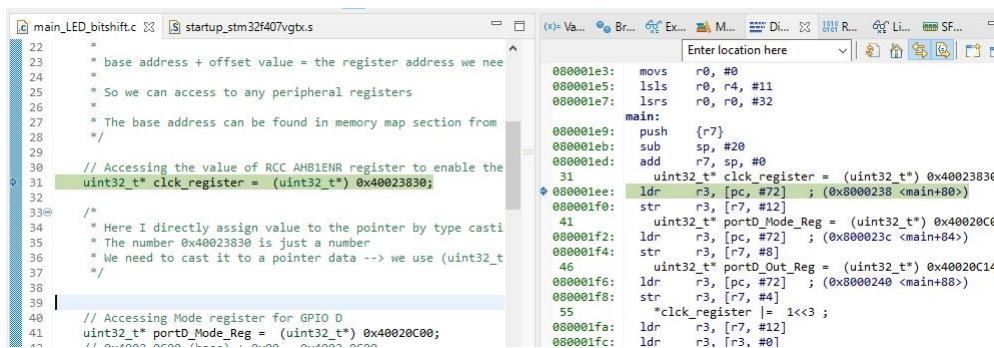

Figure 5.5: Debug Mode: Displaying Assembly Instructions
A new mini window will appear (shown in Figure 5.5) on the right-hand side, displaying the Arm assembly instructions for the C code.
Analyzing Assembly Window: Let's take, for example, the assembly code shown in Figure 5.5.
- These instructions are not stored in a textual way; they are stored as *opcode*. To see the opcode, right-click on the assembly instruction, then click on **Show Opcode**. For example, the opcode for Figure 5.5 is shown in Figure 5.8.